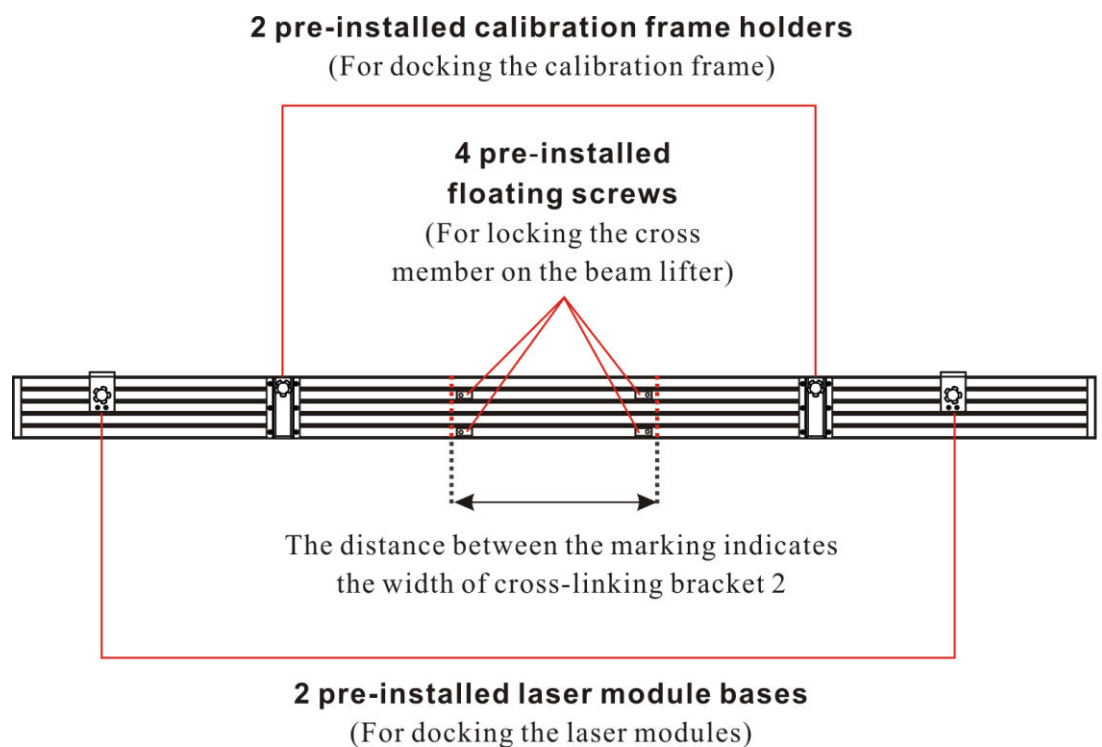

Fig. 4-2
1. Secure the cross member on the beam lifter: There are two scales (the distance between them indicates the width of cross-linking bracket 2) marked on the cross-member and next to them are 4 floating screws pre-installed in the sliding rail 1 & 4 respectively. See Fig. 4-2.